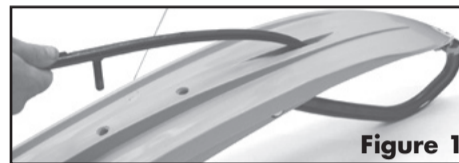
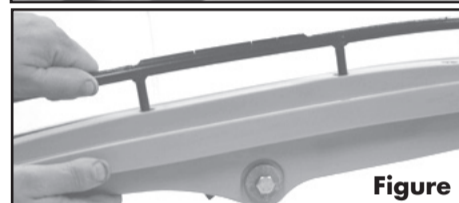

Figure 1
Figure 2
- Insert the front end of the runner into the runner opening or indentation provided in the ski. (figure 1) Swing the rear end of the runner to align the runner bolts with the bolt holes in the ski. Then insert the bolts through the ski. Some pressure may be required. (figure 2)